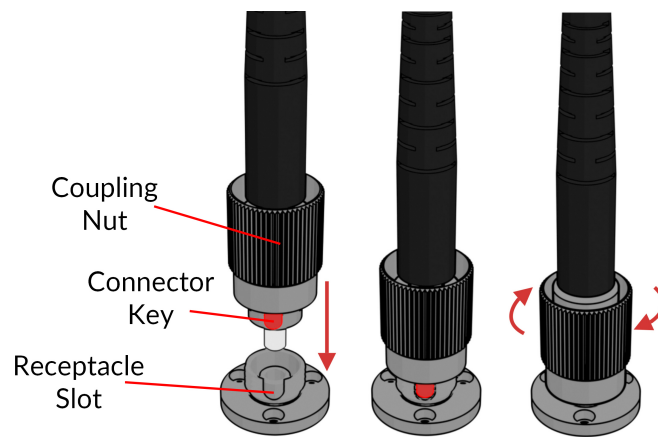

Figure 2.1: FC connector, Fiber Installation
2. With an FC connector, the connector key must be oriented to enter within the receptacle slot to ensure proper connection (Fig. 2.1).